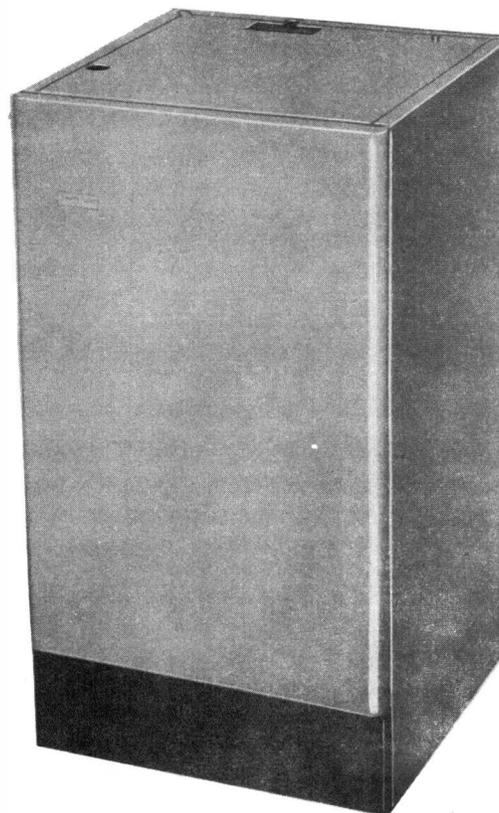

Figure 1 - 35 Receiving Only Reperforator Table
1. GENERAL DESCRIPTION (Fig. 1)